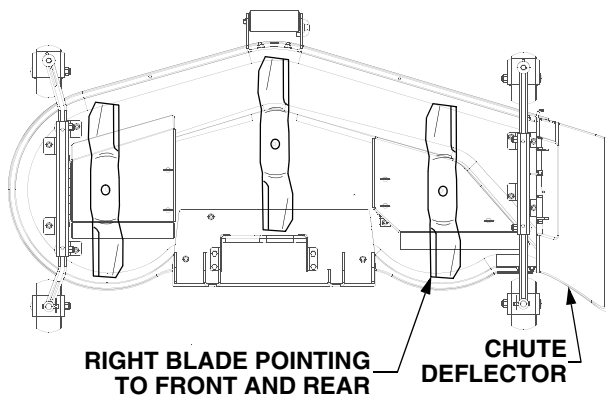

Figure 53
- Carefully rotate the outer cutting blades so that the ends of the blades point to the front and rear of the deck. See Figure 53.